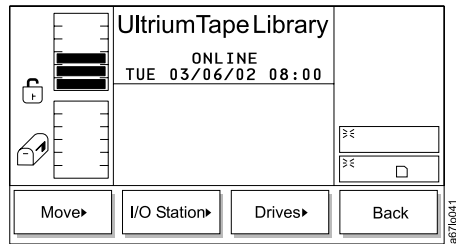

Figure 169. Command Menu
1. From the Main Menu’s initial screen, press the button below the **Command** softkey. The Command Menu displays (see Figure 169 on page 147).